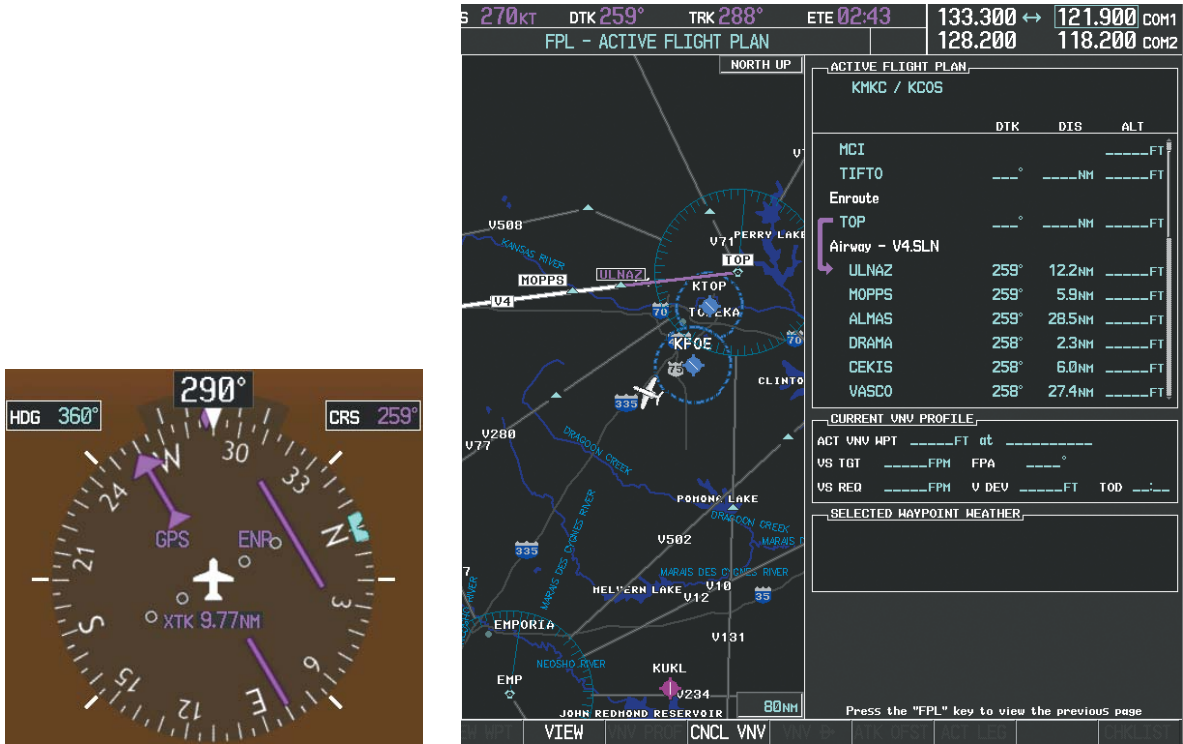

Figure 5-116 V4 Now Active Leg
d) Verify the displayed leg is the desired leg and press the **ENT** Key. Note in Figure 5-116, the magenta arrow in the flight plan window and magenta line on the map indicating V4 is now the active flight plan leg. Note the phase of flight remained in Terminal (TERM) mode up to this point because a departure leg was active. Since a leg after the departure is now active, the current CDI flight phase is ENR (Enroute) and CDI scaling has changed to 2.0 nm.